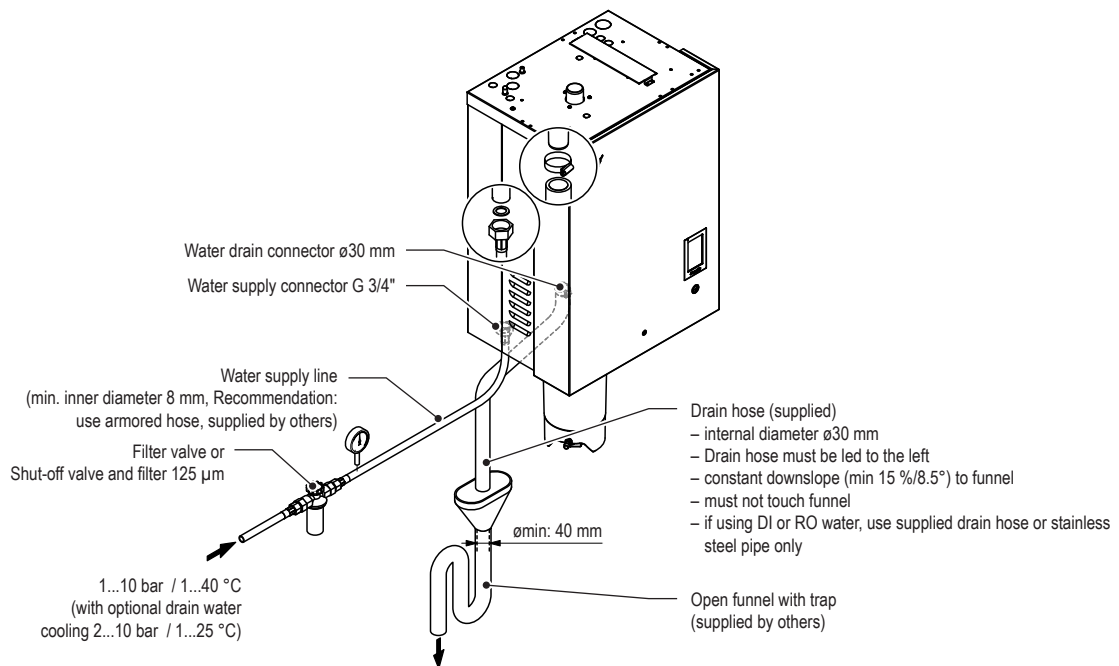

Fig. 22: Overview water installation for single units Small ("S") and Medium ("M")
- Always lead the supplied drain hose from the connector to the left down to the funnel (see Fig. 22).